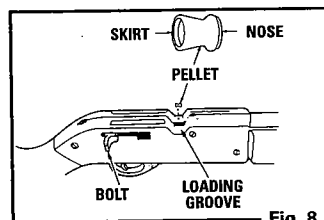

Fig. 8
- Place one pellet, nose forward, in the loading groove. (Fig. 8)